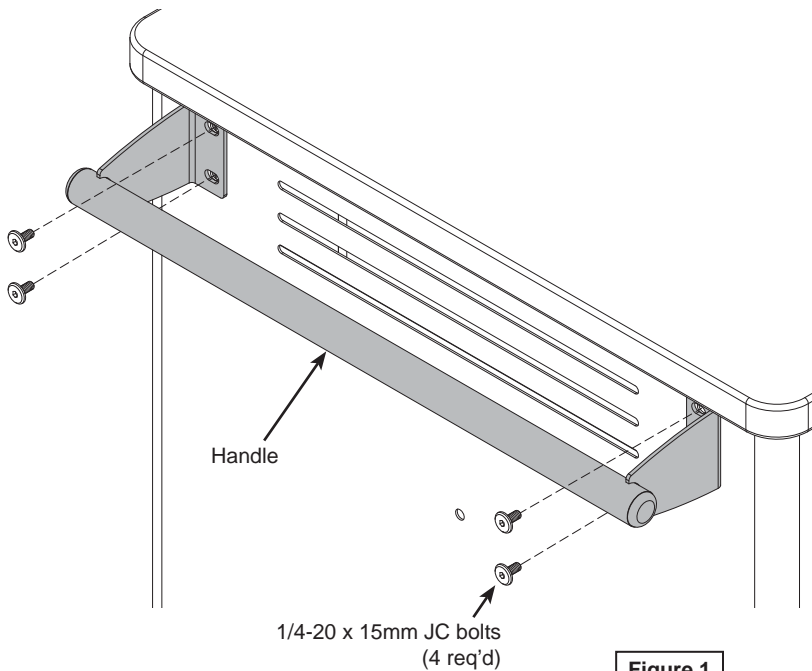

Figure 1
1. Attach the handle to the cart with (4) 1/4-20 x 15mm JC bolts and tighten securely. **Figure 1.**